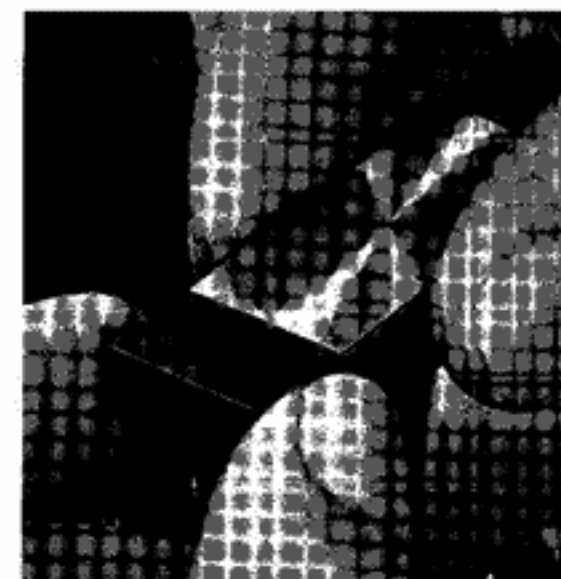

Fig. 4
- a Remove cartridge slide from tonearm head by gripping sides of slide and pulling gently forward while supporting the tonearm (Figs. 4 and 5).